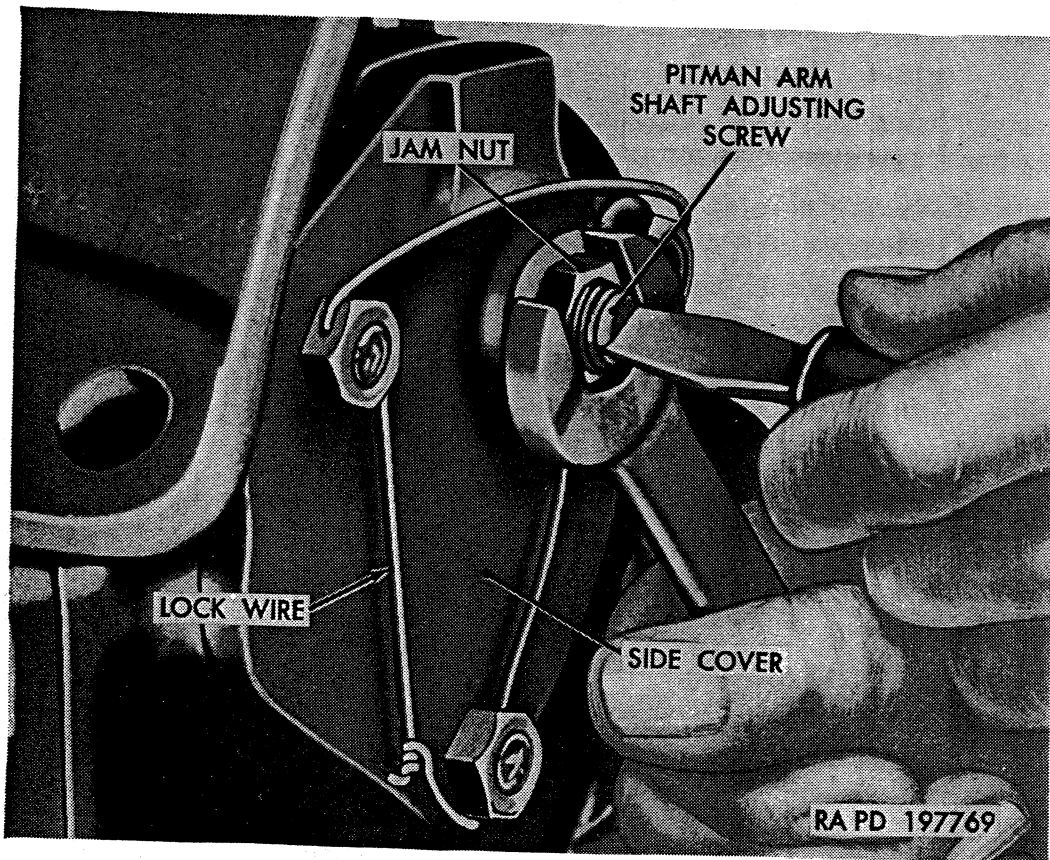
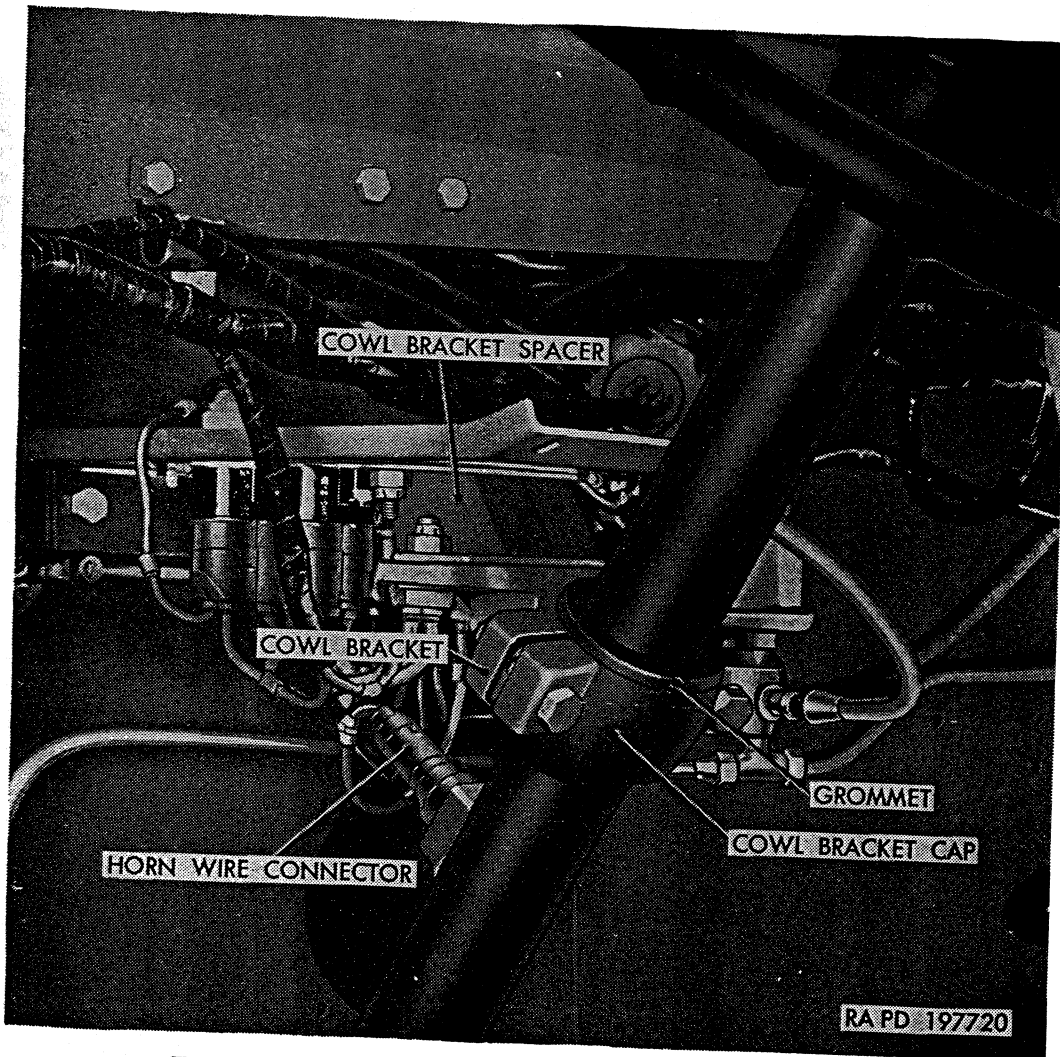
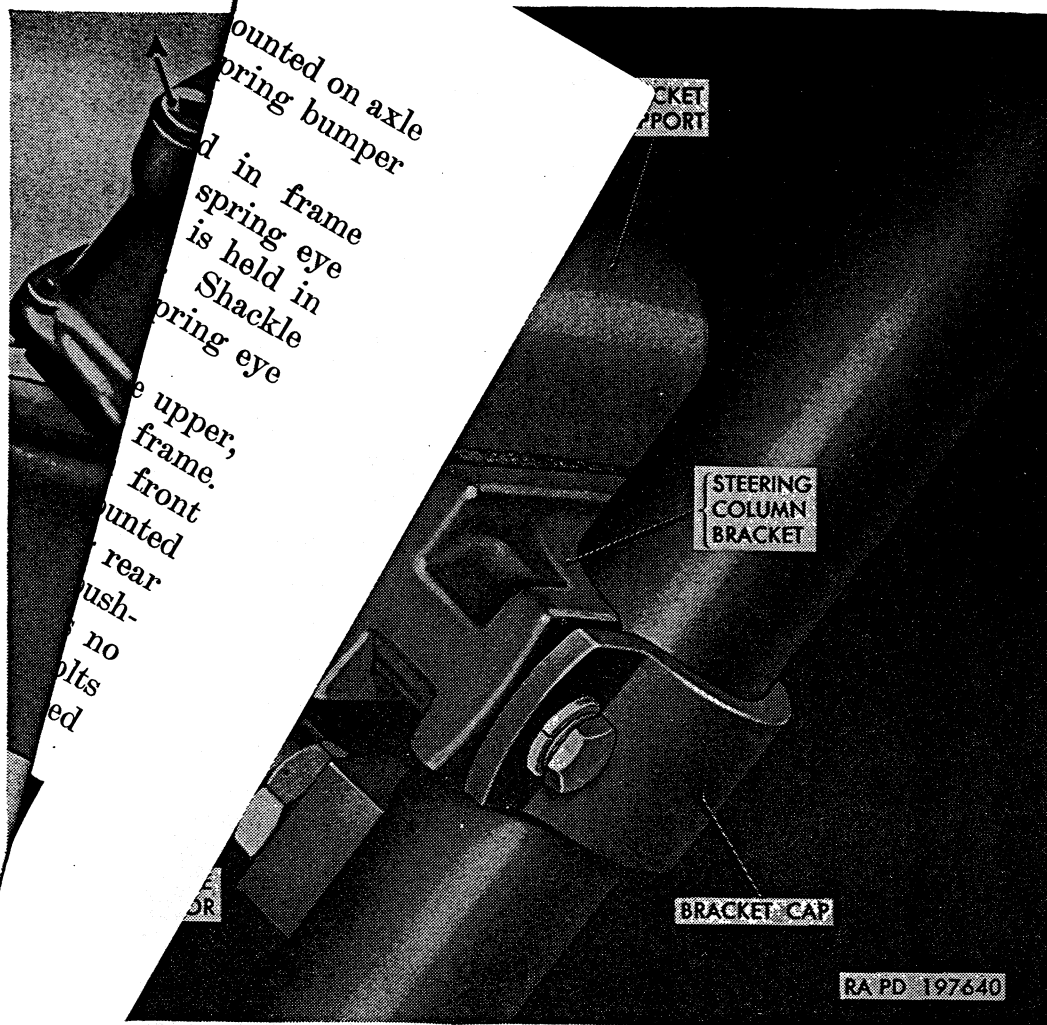

Figure 276. Adjusting pitman arm shaft lash.
Figure 284. Steering mounting at cowl (early models).
Figure 285. Steering mounting at cowl (late models).
- (1) Check lubricant in housing and fill to proper level if necessary. Refer to lubrication chart (par. 69).
- (2) Check mounting bolt nuts for tightness (par. 272*d*(4)).
- (3) Disconnect drag link from pitman arm (par. 269*b*). Loosen two bolts on cowl bracket cap (fig. 284 or 285).
- (4) Check end cover cap screws (fig. 278) for tightness. Loosen jam nut on pitman arm shaft adjusting screw (fig. 276) and turn adjusting screw a few turns counterclockwise to provide clearance between pitman arm shaft sector and worm nut.
- (1) Remove lock wire (fig. 276) from side cover bolts and check tightness of bolts.
- (2) Center steering mechanism by gently turning wheel from right to left extreme position, being careful to approach end position lightly. Count number of turns of wheel while turning to extreme left. Turn wheel back exactly half way; then mark position on top or bottom of wheel with a piece of tape.
- (3) Turn pitman arm shaft adjusting screw (fig. 276) in to remove all lash between gear teeth. Amount of backlash can be determined by pushing backward and forward on lower end of pitman arm. When all backlash has been removed, tighten jam nut.
- (5) If pull is not within proper limits ( $2\frac{3}{4}$  to  $3\frac{1}{4}$  lb.), loosen jam nut and turn adjusting screw as necessary to obtain proper pull. Tighten jam nut and again check pull. Always check pull after tightening jam nut.
- (6) Install lock wire (fig. 276) in heads of side cover screws.
- (7) Install drag link end to pitman arm (par. 269c).
- (8) Tighten two bolts on cowl bracket cap (fig. 284 or 285).
- (3) In cab, remove six bolts from upper and lower pedal plates; then remove plates. Remove horn cable connector from steering column. Remove two cap screws attaching cowl bracket cap (fig. 285) to cowl bracket.
- (5) On early models (fig. 284), loosen two nuts and bolts attaching spacer to cowl bracket. Position rubber grommet on steering column. Position steering column in cowl bracket; then install bracket cap with two  $\frac{3}{8}$ -24 x 2 cap screws and two  $\frac{3}{8}$ -24 safety nuts. Tighten nuts. With steering column positioned without bind, tighten the two bolts and nuts which attach cowl bracket to spacer. On late models (fig. 285), loosen two nuts and bolts attaching bracket support to dash brace. Position steering column in steering column bracket. Position bracket cap on bracket; then attach cap with two  $\frac{3}{8}$ -16 x 1 bolts and  $\frac{3}{8}$ -inch lockwashers. Tighten bolts. With steering column positioned without bind, tighten the two bolts and nuts attaching bracket support to dash brace.
- (6) In cab, position upper and lower pedal plates on cowl; then attach with six  $\frac{5}{16}$ -24 x  $\frac{5}{8}$  bolts with external-teeth lockwashers. Connect horn cable connector to steering column.
- (7) Position steering drag link ball stud in pitman arm. Install  $\frac{5}{8}$ -18 slotted nut on stud; then tighten to 75 to 100 pound-feet torque. Install new  $\frac{1}{8}$  x  $1\frac{3}{8}$  cotter pin to secure nut on stud.
- (8) Install steering wheel (par. 271c).
- (9) Check lubricant level and replenish if necessary as described on lubrication chart (par. 69).